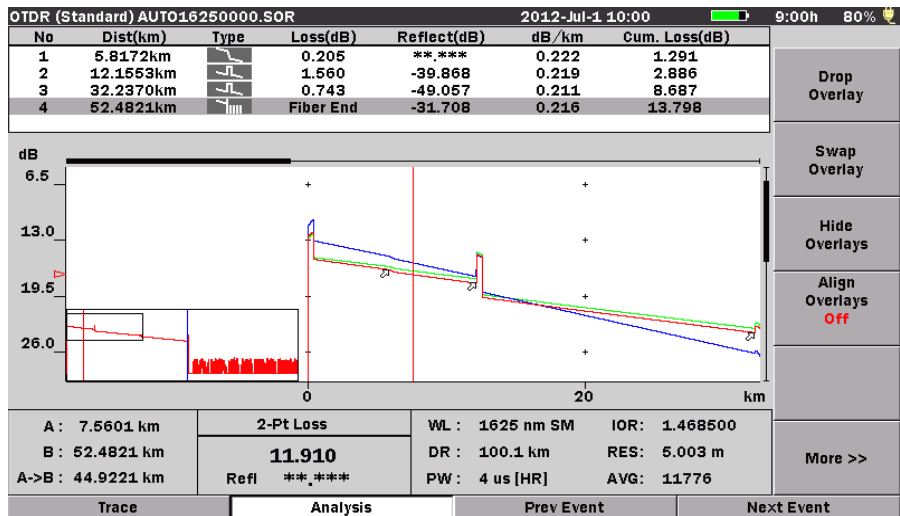

Figure 4-30: Trace Screen with Trace Overlay Softkeys
The Hide Overlays softkey is only available when there are overlay traces currently displayed, as shown in Figure 4-30 on page 4-85.
- **Align Overlays On** – When **Align Overlay** is toggled to **On**, all currently displayed Overlay traces are aligned to the same point on the screen as that of the intersection of the Primary trace and the cursor. See Figure 4-30 on page 4-85.